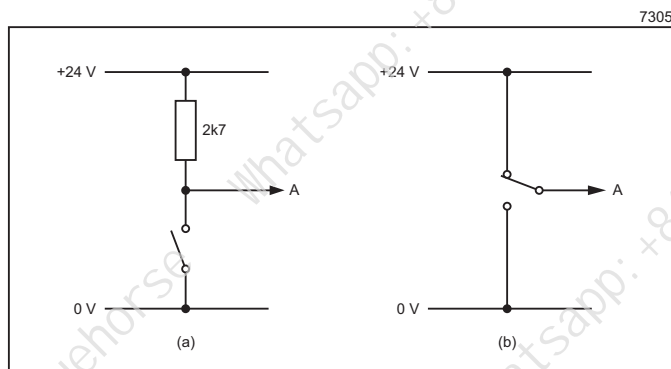

Figure 45. Input connection: 'Sink' option
If the 'Sink' option is selected (see 'Input Sink' on page 28), connect any inputs that are not active to the 24 V line. To connect an active input, use a pull-up resistor on the input (A) as shown in Figure 45 (a), or use a relay (b).